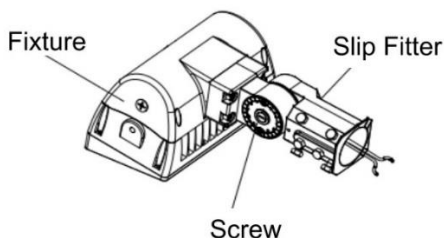

figure 2.1
- Make all appropriate electrical connections (figure 2.1). See wiring diagram for proper connections.